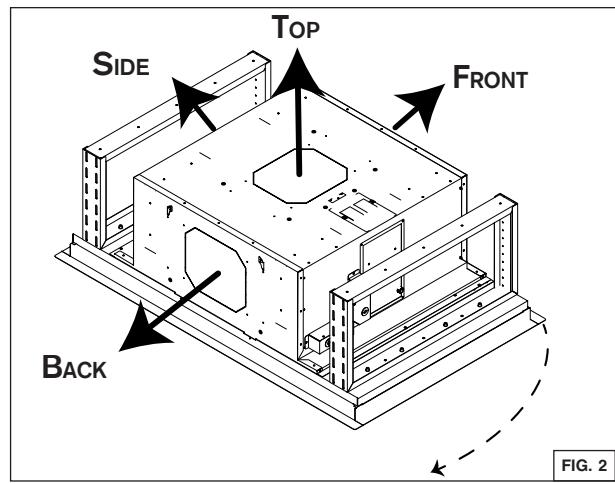

FIG. 2
2. Choose desired blower outlet position (FIG. 2).